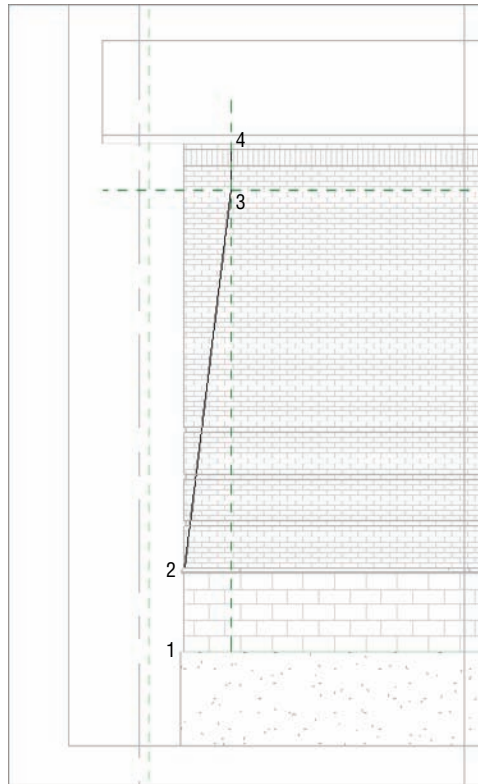

FIGURE 16.43 Drawing the face of the shape
4. Verify that Draw Line is the draw option. Draw a line from point 1 to point 2, as shown in Figure 16.43. (This line is from the bottom of the CMU wall to the bottom of the concrete ledge.)
5. Draw a line from point 2 to point 3, as shown in Figure 16.43.
6. Draw a line from point 3 to point 4, as shown in Figure 16.43.